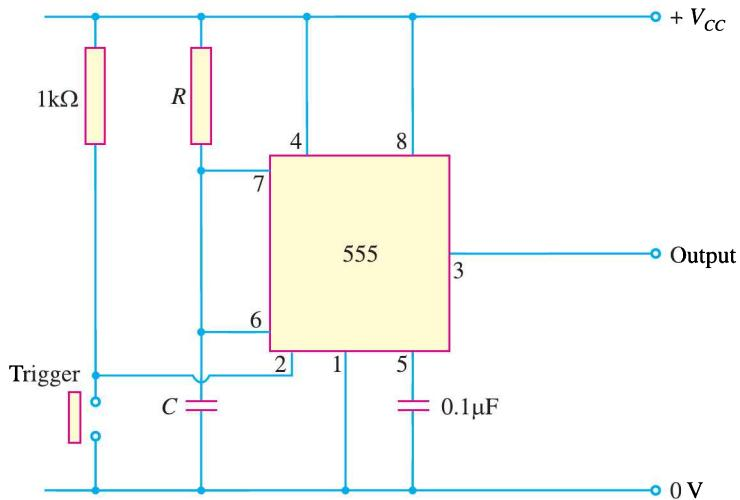

Fig. 23.17
**(iii) The 555 Timer as monostable multivibrator.** Fig. 23.17 shows the circuit of the 555 timer as a monostable multivibrator. The  $R$  and  $C$  are the external components whose values determine the time  $T$  (in seconds) for which the circuit is on. This time is given by ;
**Example 23.2.** The monostable multivibrator like the one in Fig. 23.17 has the values of  $R = 1.2\text{ k}\Omega$  and  $C = 0.1\text{ }\mu\text{F}$ . Determine the time  $T$  for which the circuit is on.